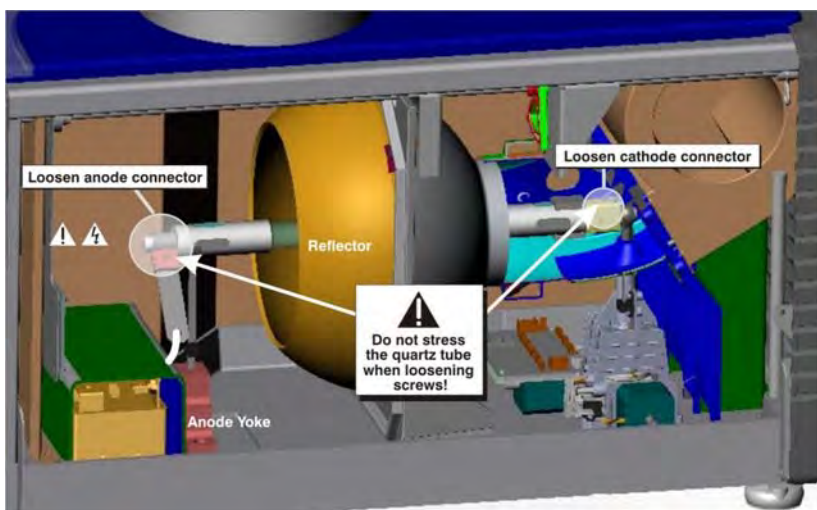

Figure 5-45 Remove Lamp
- Loosen set screws from negative/cathode and positive/anode lamp connectors. Make sure to apply minimal torque and DO NOT STRESS the quartz tube (Figure 5-45).